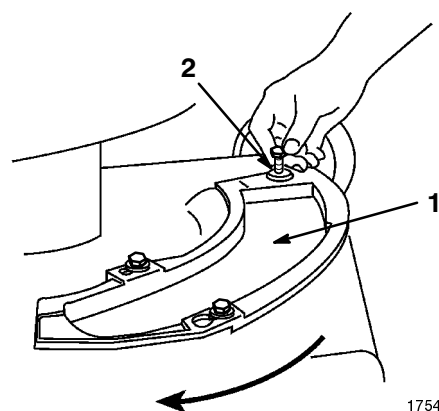

Figure 5
3. Remove the screw that fastens the cover plate to the housing (Fig. 5).